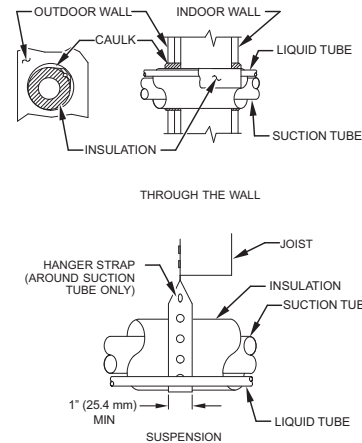

Fig. 1 - Connecting Tubing Installation
6. When passing refrigerant tubes through the wall, seal opening with RTV or other pliable silicon-based caulk (see Fig. 1).
8. Do not suspend refrigerant tubing from joists and studs with a rigid wire or strap which comes in direct contact with tubing (see Fig. 1).
10. When necessary, use hanger straps which are 1 in. wide and conform to shape of tubing insulation. (See Fig. 1.)